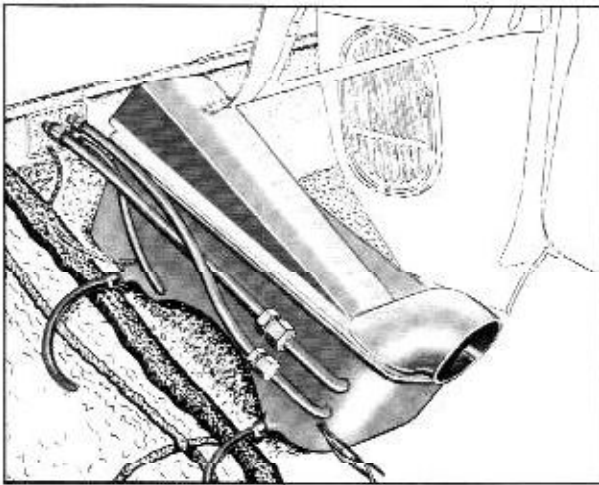

Fig. 14-35 Evaporator Case Ass'y.
4. Disconnect high pressure line and low pressure lines at back of evaporator case. (Fig. 14-35) Tape fittings to prevent entrance of dirt and moisture. Pull by-pass valve control cable through the pan grommet.